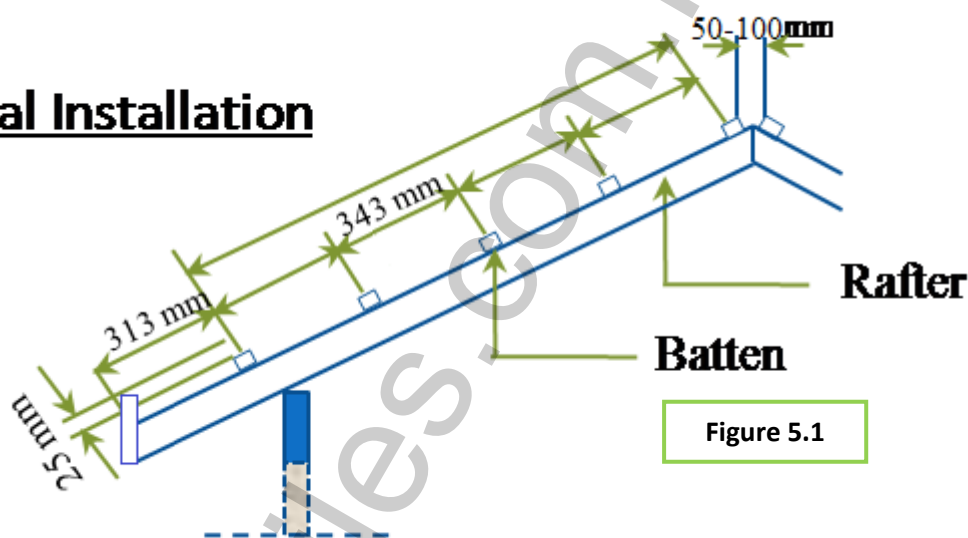
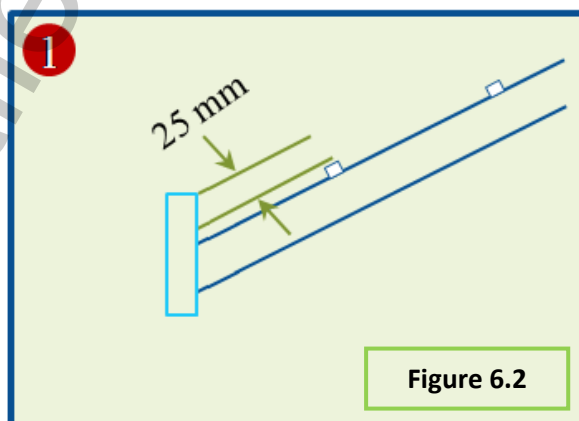
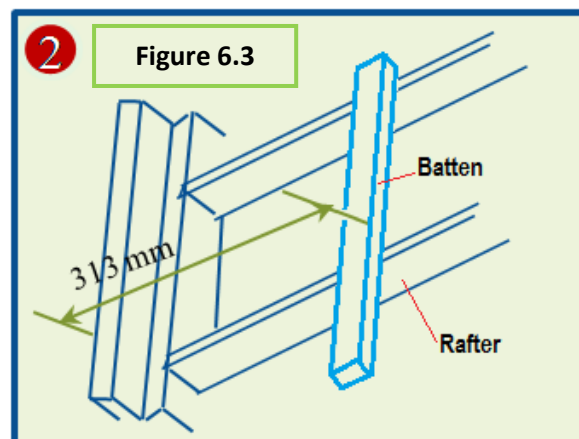

Figure 5.1
Figure 6.2
Figure 6.3
The last Batten at the Eave must be spaced up 25 mm higher than the previous batten. (Fig. 5.1 & Fig. 6.2).
The spacing between the last Batten at the Eaves and the previous Batten is 313 mm. (Fig.5.1 & Fig. 6.3).
The spacing distance between the rest of the battens is 343mm based on a 76mm headlap / overlap. (Fig. 5.1, Fig. 6.4, Fig. 6.8 & Fig. 6.9).
The distance between 2 topmost Battens where the ridge of the roof sits should be as close as possible, or 50-100 mm gap in between, depending on the pitch of the roof. (Fig. 5.1 & Fig. 6.5).
Other battens are spaced according to the maximum of 343mm/13.5 inches (Fig.5.1, Fig. 6.8 & Fig. 6.9). The wooden battens or steel roof trusses used must be set strictly perpendicular to the rafters. Note that all eaves tiles should lie over the centre line of the gutter where water exits and must be nailed/screwed.
On the same row, the battens must be of the same height to facilitate good installation of tiles. For eaves tiles, the height of lowest batten or top edge of fascia board shall be 25 mm higher than other battens due to the absence of another tile below the last tile which overlaps upon. (Fig. 5.1 and Fig 6.2). Other layouts as per Figure 6.8 & 6.9.
2) Hook the nibs over the wooden battens at their batten lugs, then laying the next tile along side so that it overlaps its neighbor. (*Fig. 10.2*). Complete laying the bottom row of the entire roof. Note that the end of each tile is to be raised by 25mm, as per *Fig. 5.1* and *Fig. 6.2* in Setting Out.